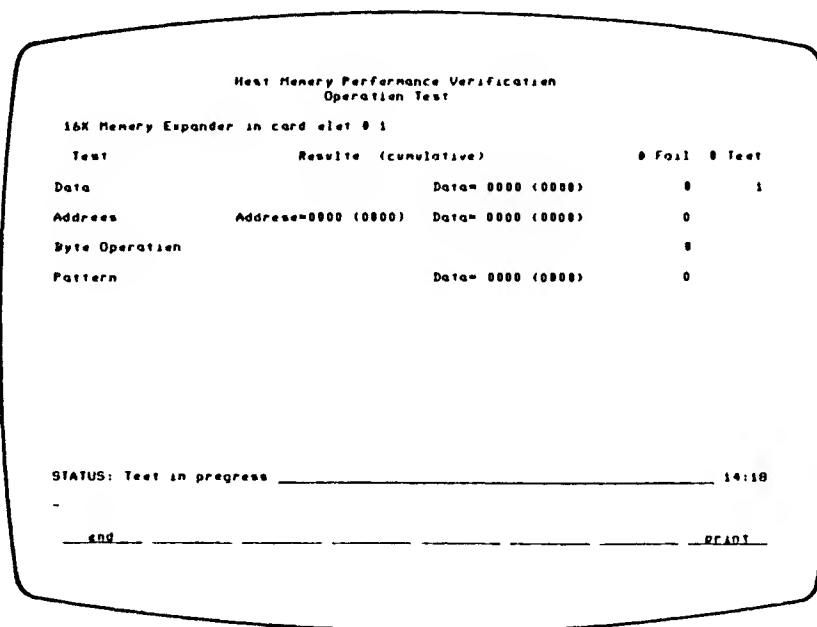

Figure 4-4. Operation Test Display
**4-22. Purpose.** This test (figure 4-4) checks all data paths for signals LD0 through LD15 by writing data to the memory RAMs and then reading it back. When a bit cannot be written and read back in both its high and low level, an error is flagged. During the test, data is written to only one address in each of the 16 RAMs, therefore, a successful test indicates that the data paths are functioning correctly, but it does not imply that all cells in all RAMs are operating properly. See Pattern Test for RAM cell checks. Note that address bus failures generally do not affect the reliability of this test.
**4-25. Purpose.** All 14 address lines are checked in this test (figure 4-4) to make certain they are intact. Data is written to selected addresses in the RAMs and read back. When each bit at the selected addresses cannot be written and read at its high and low state, an error is noted.
**4-28. Purpose.** This test (figure 4-4) checks the module's ability to perform byte operations. When the upper and lower bytes cannot be written and read back correctly, an error condition is noted.
**4-31. Purpose.** All of the cells in each RAM are checked by this test (figure 4-4). When both the high and low state cannot be written and read back from each cell, a failure is noted.